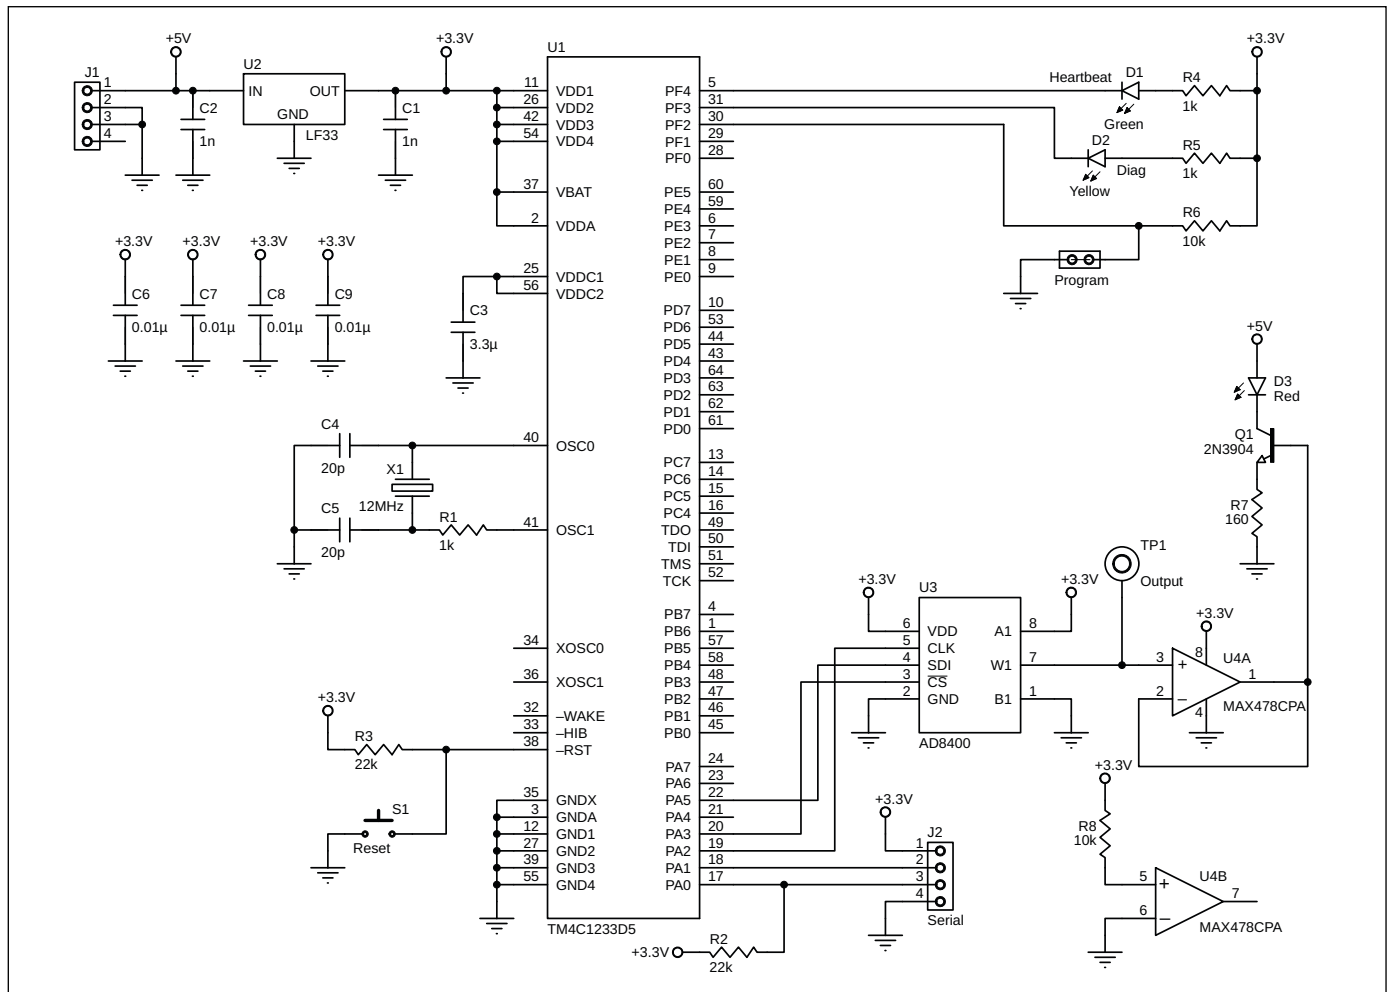

FIGURE 4
Showing an example circuit, **Figure 4** is a schematic of a Texas Instruments (TI) TM4C1233H6 MCU [1] connected to an Analog Devices AD8400 digital potentiometer [2]. In the schematic, the wiper output of the potentiometer drives (through op-amp U4) the base of a transistor that acts as a constant current driver for an LED. The digital potentiometer is an 8-bit device, meaning that the wiper moves between the B1 and A1 values as the control byte ranges from 0 to 255.